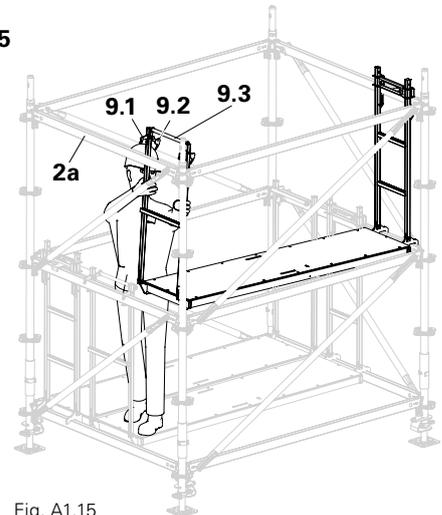

Fig. A1.15
2. Pull the red tipping bar (9.3) on the opposite side upwards. → Counterholder (9.2) is then released and the hooks (9.1) are unhooked. (Fig. A1.15)
3. Attach both hooks (9.1) to the top Ledger (2a). → Counterholder (9.2) is positioned on the Ledger as protection against lifting. (Fig. A1.15 + A1.09a)
- When moving the decking begin with the yellow side. (Fig. A1.15)